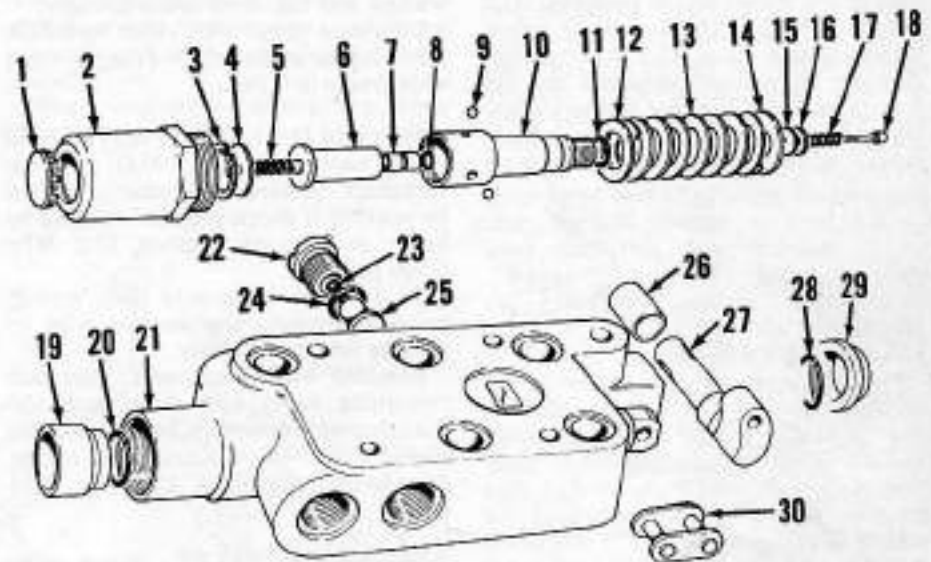

Fig. 212—Exploded view of double acting remote control valve showing component parts and their relative positions.
**376.** Remove retaining bolts and separate top cover, valves and combining (priority) valve or distribution block, if so equipped. Remove non-return valve plug (22—Fig. 212), spring (23) and spool (25). Remove all line fittings, lever (27) and link (30). Remove cover (1), loosen control spool body (2) and remove snap ring (3). Remove spool body. Remove detent washer (4) from spool body. Remove detent spring (5), plunger (6) and the three steel balls (9). Remove spool assembly (10). Remove bushing (19), "O" ring (20) and seal. Remove seal (29) and "O" ring (28). Remove detent retainer (10), spring (17) and spool (18). Remove washers (12 and 14) and spring (13). Remove shim (11) and restrictor (12). Remove release plunger (7) and "O" ring (8).